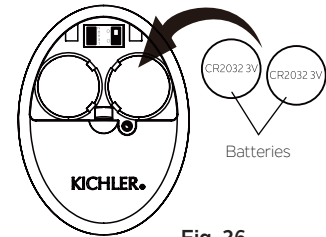

Fig. 26
**Step 3.** To make fan operational, install two 3V CR2032 batteries (included). (Fig. 26)